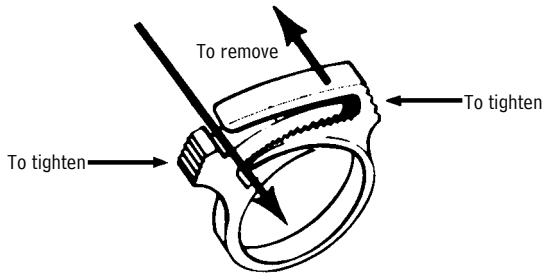

Figure 2
2. Install the small nylon clamp over the air entry sleeve and cooling vest connector hose. Engage the clamp locks and squeeze until tight (**Figure 2**).